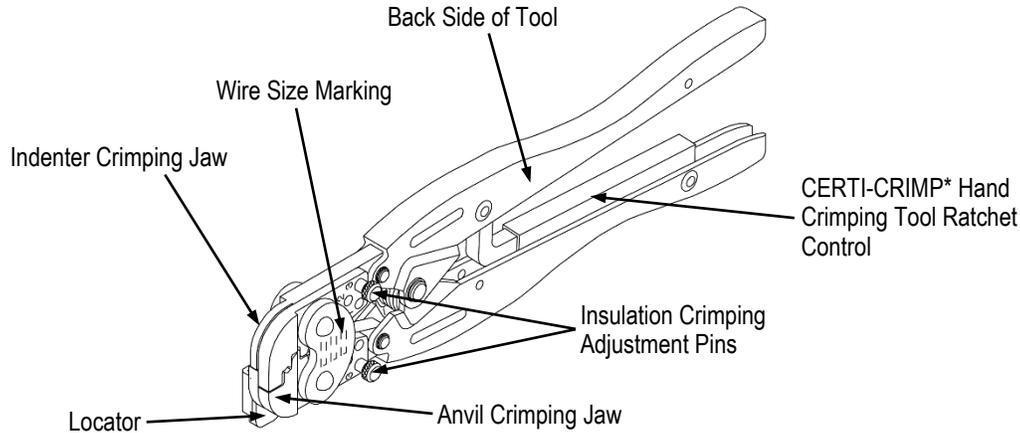

Figure 1
The hand tool ratchet ensures full crimping of the terminal. Once engaged, the ratchet will not release until the tool handles have been FULLY closed. See Figure 1.
1. Insert insulation crimping adjustment pins into Position 3 as shown in Figure 1.